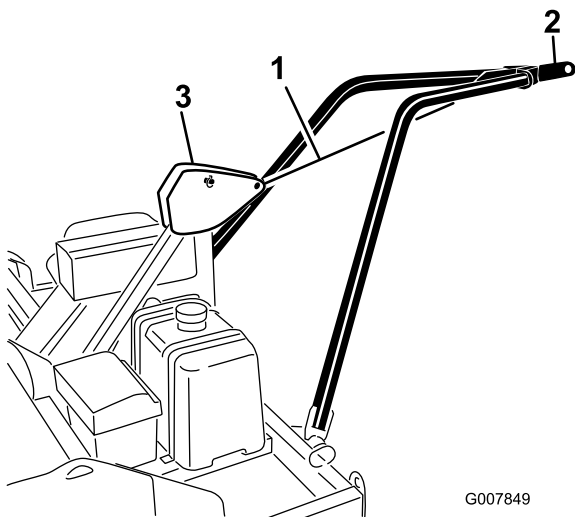

Figure 12
2. Using a tie down or rope, secure the tow-arm hitch plate to the frame hitch pivot while raising the tow-arm for installation (Figure 12).